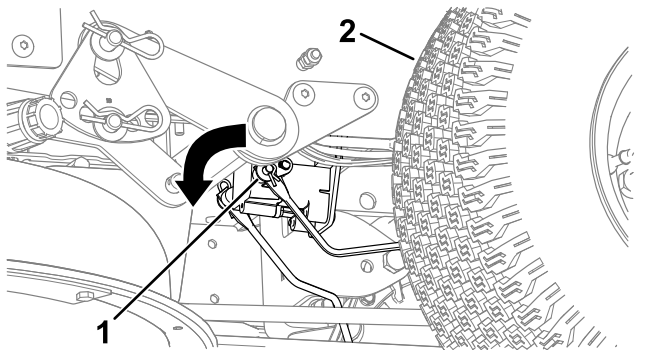

Figure 46
3. Locate the shaft on the electric brake where the brake link arms are connected (Figure 46).
4. Rotate the shaft to release the brake (Figure 46).